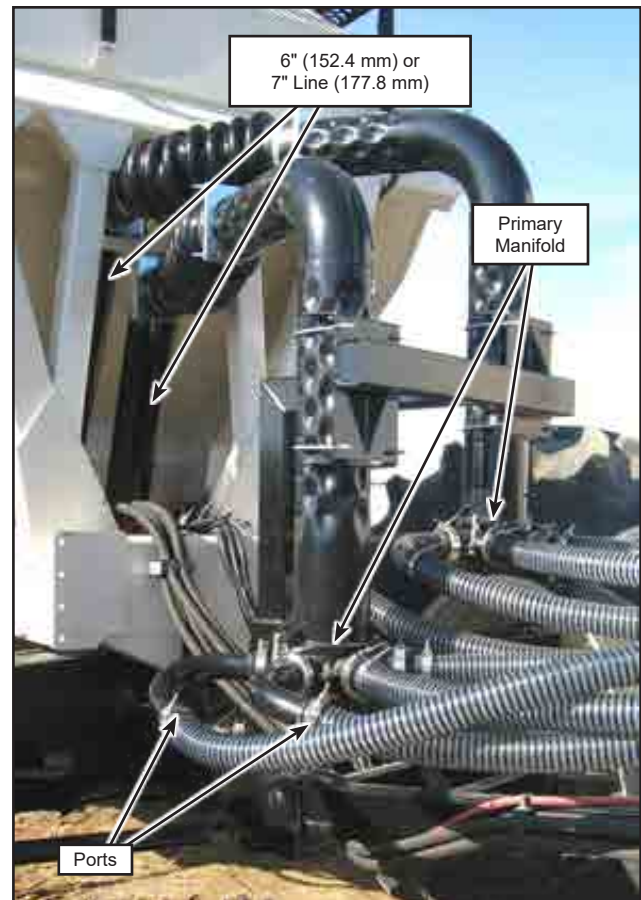

Figure 1.1 - Primary Line, Manifold and Ports
3. Count the number of ports on the primary manifold. This is the manifold being fed by the 6" (152.4 mm) or 7" (177.8 mm) pipe from the air cart, refer to *Figure 1.1*.